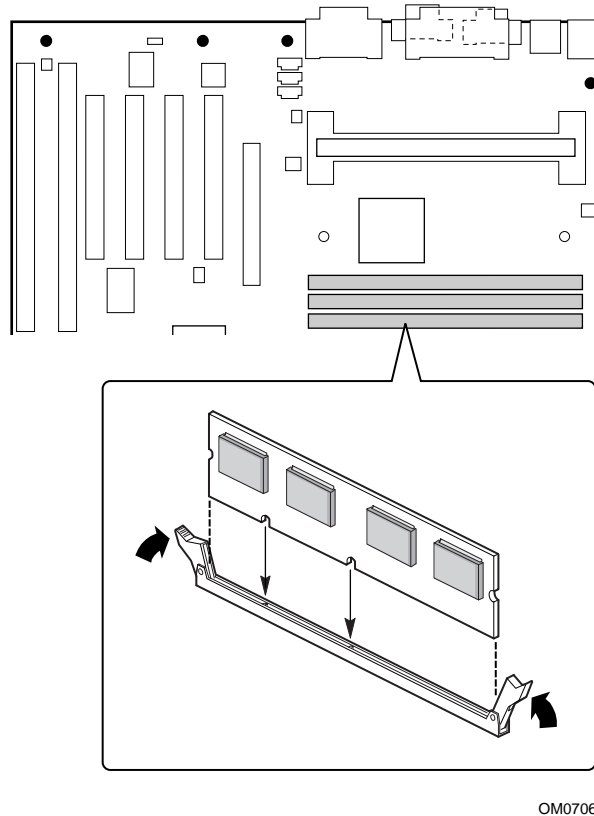

Figure 13. Installing a DIMM
7. Insert the bottom edge of the DIMM into the socket (see Figure 13).